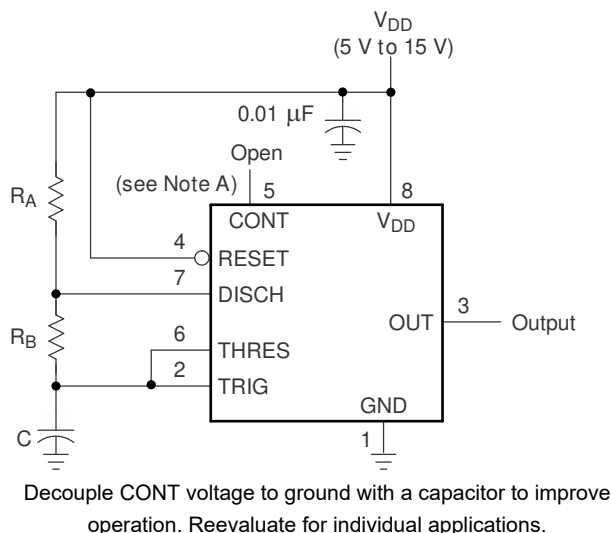

Figure 6-5. Circuit for Astable Operation
(1) R_A , R_B , and C_T are as defined in Figure 6-5.
As shown in Figure 6-5, adding a second resistor, R_B , to the circuit of Figure 6-2 and connecting the trigger input to the threshold input causes the timer to self-trigger and run as a multivibrator. The capacitor C charges through R_A and R_B and then discharges through R_B only. Therefore, the duty cycle is controlled by the values of R_A and R_B .